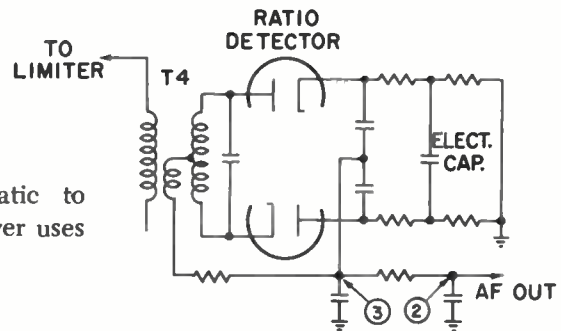
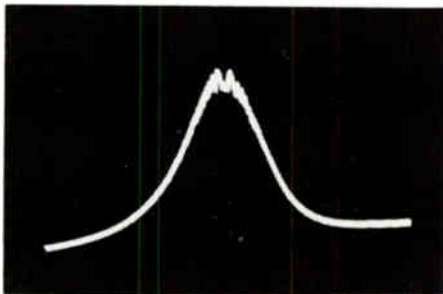
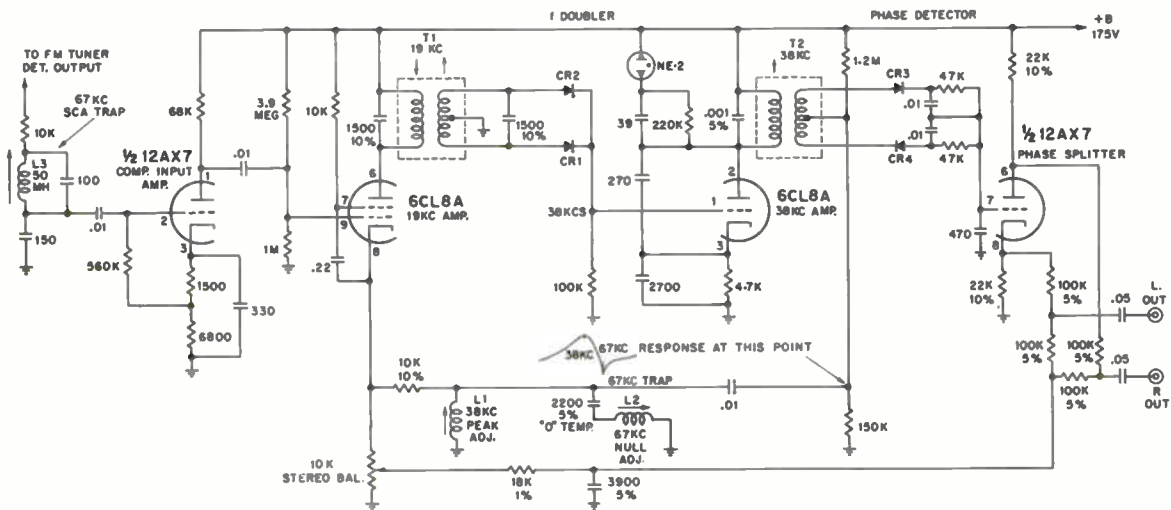

Figure 3. Limiter and Detector Test Points
Figure 4. Trace Obtained at Limiter Grid Circuit
Figure 8. Multiplex Circuit Schematic
The following example is provided as an aid in understanding the use of the Simulator in checking the tuner and aligning the multiplex circuit of a stereo FM receiver. The multiplex alignment procedure given is for one particular receiver. The schematic diagram for the IF limiter and discriminator stages is shown in Figure 3, and the multiplex circuitry is shown in Figure 8. Although this example deals with a complete stereo FM receiver, the same procedure would apply in general for a separate multiplex adaptor used with an FM tuner.
4. Connect the vertical input probe of the oscilloscope to test point 1, shown in Figure 3, the Limiter grid circuit. Set the oscilloscope H Selector switch to "Line", and adjust the phase control for a single trace. If the receiver is operating properly, and the IF transformers are correctly aligned, the trace should appear similar to that in Figure 4, below.
Connect the low-capacitance probe of the oscilloscope to the output of the detector. Test Point 3 in Figure 3. Set the oscilloscope H Selector switch to "Int".
Refer to the multiplex circuit schematic diagram shown in Figure 8